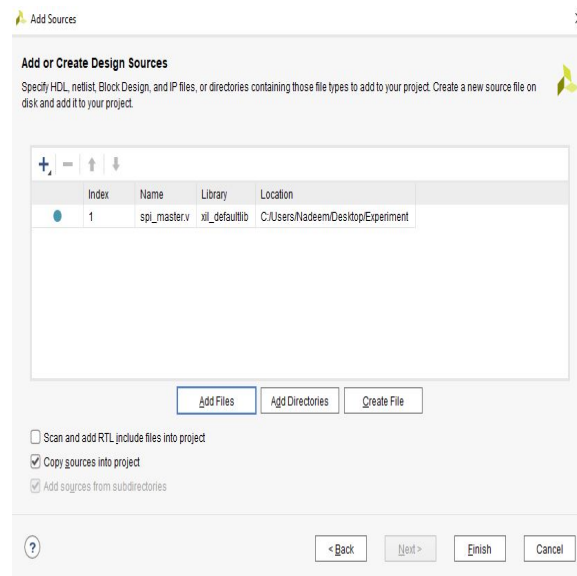

FIGURE 1.9: Adding Source File
12. If you are adding the file directly to your project, make sure to check **Copy sources into project**. (Figure 1.9)